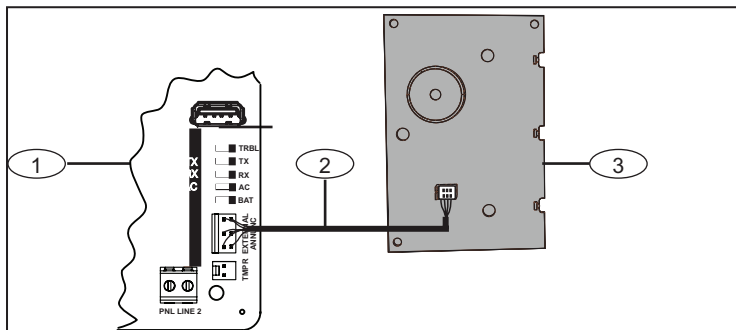

Figure 4.1: Wiring the B46 to a module (B465 shown)
2. Insert the other end of the B46 cable into the supporting module's port. Refer to *Figure 4.1*.